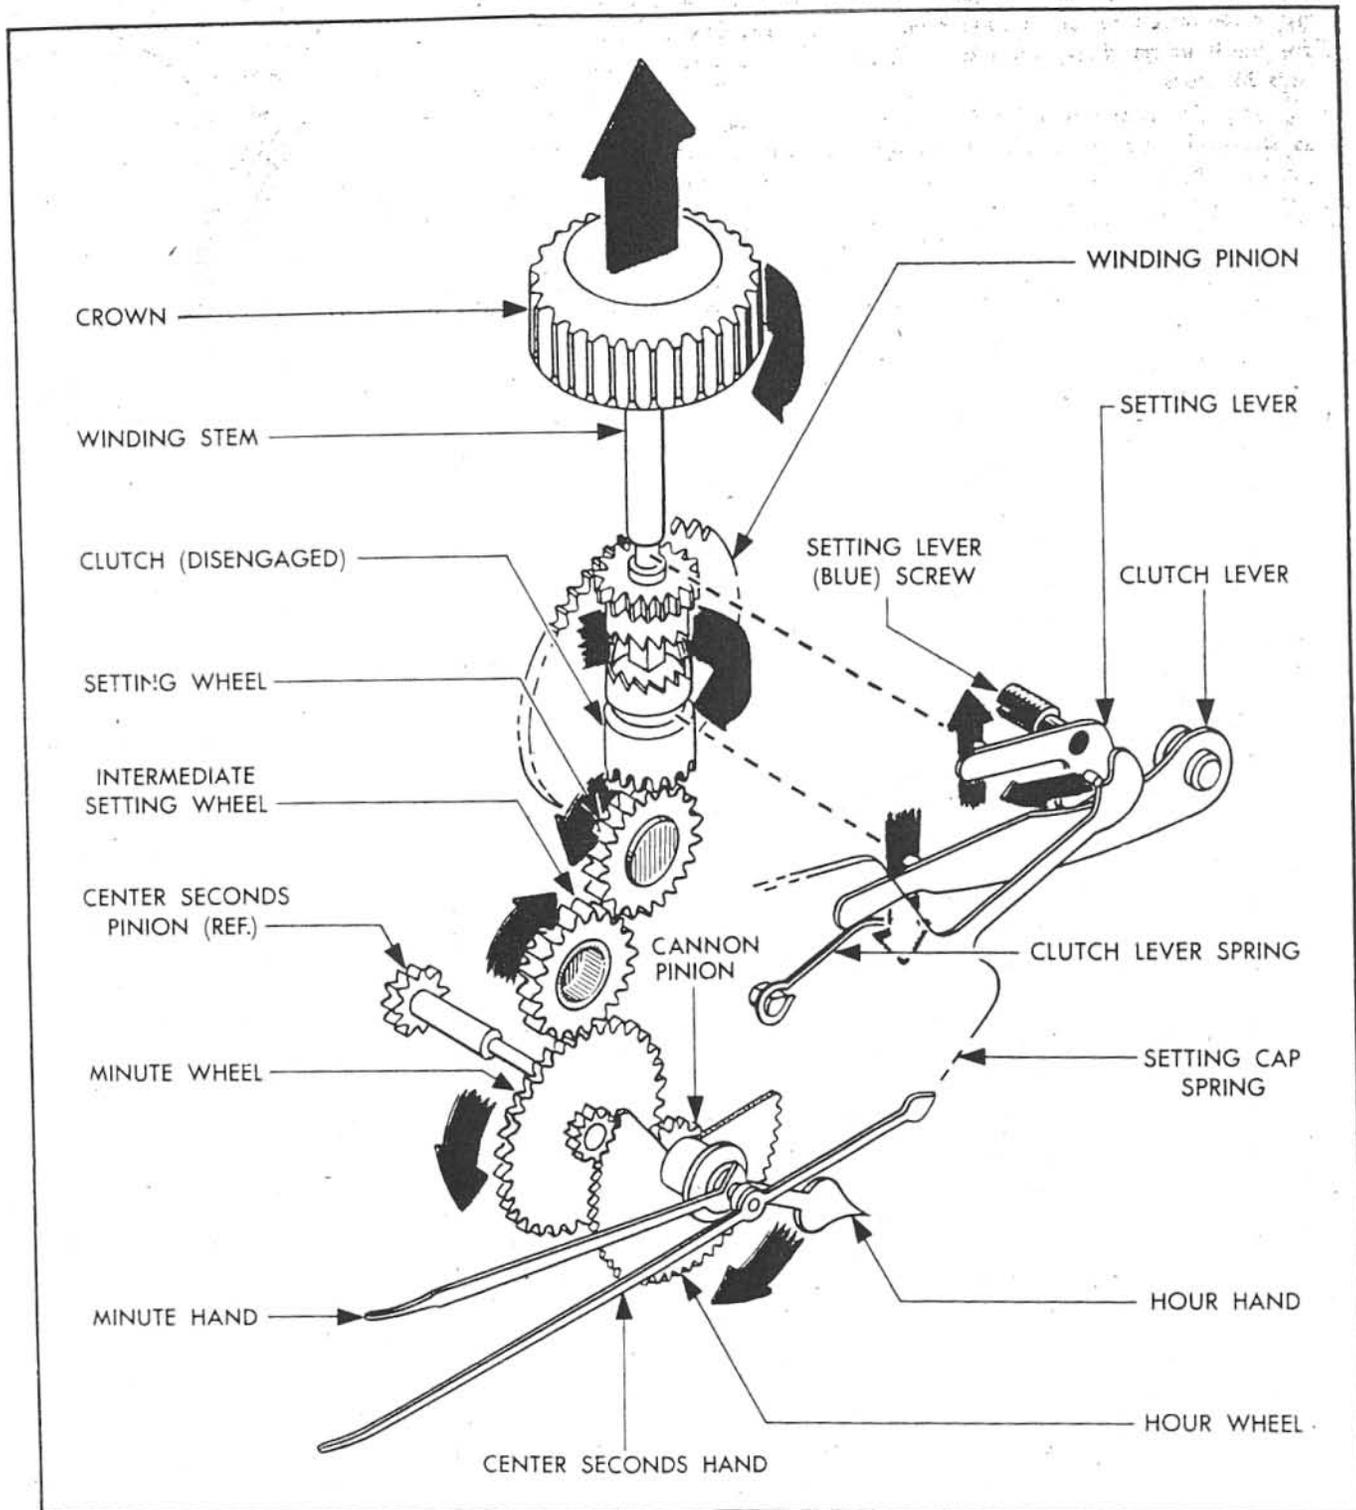

Figure 7—Sequence of Events During Setting
c. SETTING. (See figure 7.)—The sequence of events that occurs when the watch is set is much like that in a typical pocket watch except for the action of the seconds setting mechanism which is separately described in the subparagraph below. To set the watch the crown and stem are pulled out. A pin on the setting lever rests in a groove in the stem. Pulling the stem out rotates the setting lever about the setting lever (blue) screw. A pin on the opposite side of the setting lever rests in a groove in the end of the setting cap spring and, as the setting lever turns, the pin rides to the tip of the groove and holds the setting lever and stem in the setting position. In addition to these actions the rotation of the setting lever pushes the clutch lever downward by cam action. A pin in the clutch lever engages a groove in the clutch, which is free to slide up and down the square portion of the stem. As the end of the clutch lever rotates downward this pin disengages the clutch from the winding pinion and engages it with the setting wheel beneath.
While the clutch is free to slide on the stem it must turn with it; in figure 7 clockwise rotation of the crown and stem is assumed; rotation in the opposite direction will cause the same sequence of events but in the opposite direction. Turning the crown clockwise will cause the clutch to turn and turn the setting wheel. The setting wheel and intermediate setting wheel turn counterclockwise and clockwise respectively on studs on the dial side of the movement. The intermediate setting wheel is in mesh with the minute wheel and turns it counterclockwise. The cannon pinion is also in mesh with the minute wheel and thus rotates and moves the minute hand which the minute wheel supports. Meanwhile the minute wheel pinion engages and turns the hour wheel which supports the hour hand.